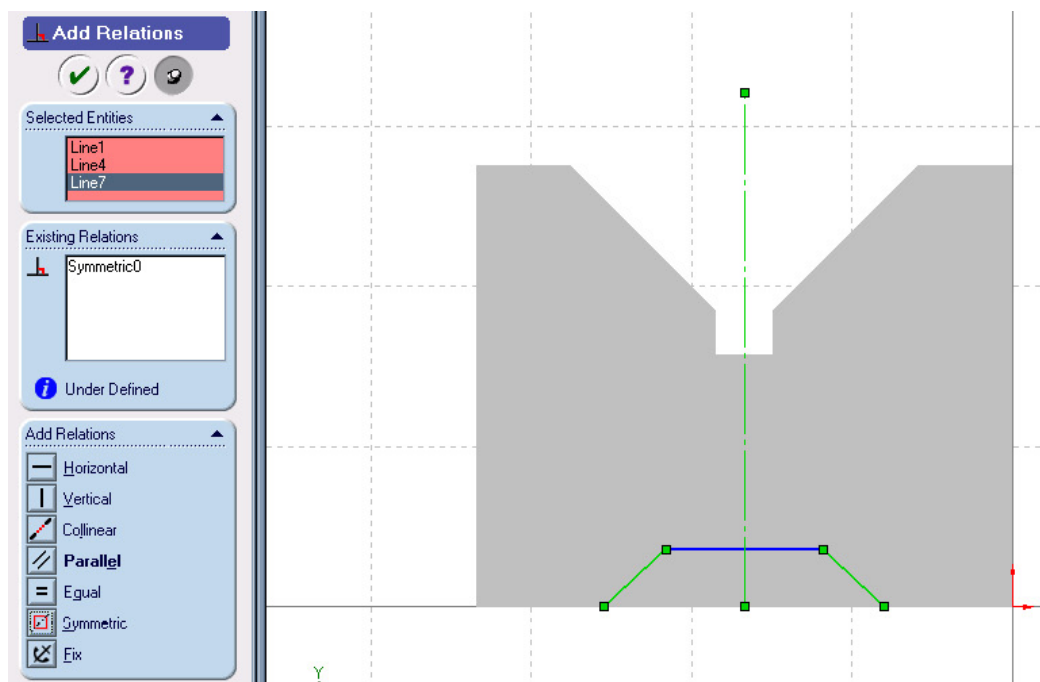

Figure22 Symmetric constraint for Angled lines
9) Select the two angled lines and the centerline. Select **Symmetric**  in the PropertyManager as shown in Figure 22.